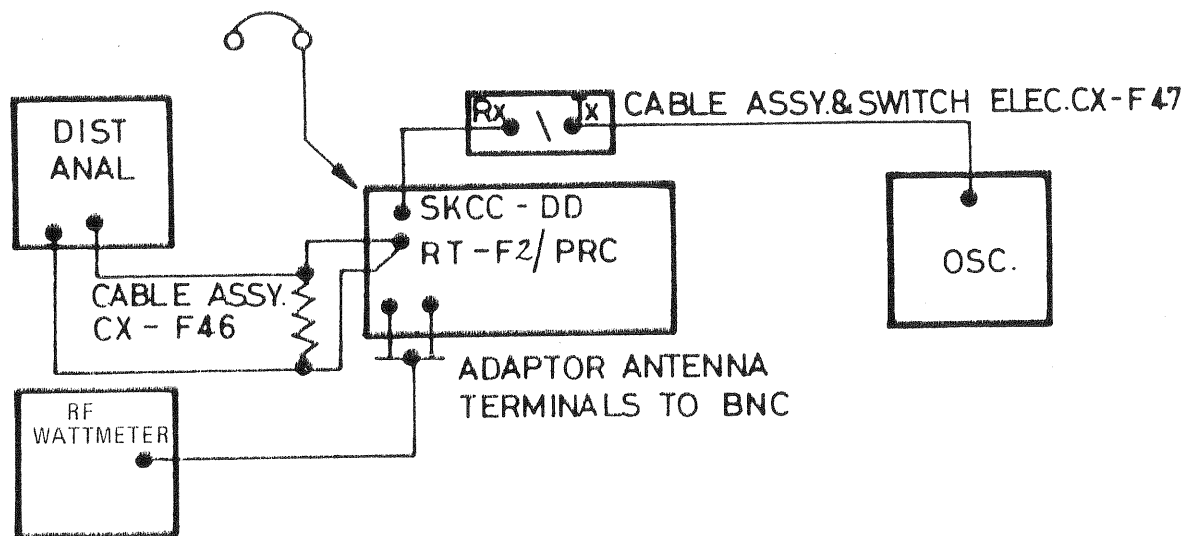

FIG 9 — TRANSMITTER SIDETONE AND MODULATION SENSITIVITY —
- a. Connect the equipment as shown in Fig 9, with Switch Elec CX-F47 in the RX position.